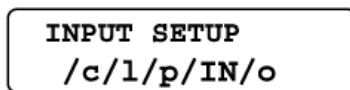

Figure 8-166 Color Video Printer Window Display (INPUT SETUP top menu displayed)
- 1.) Return to the INPUT SETUP top menu using the  button (Figure 8-166).
- 4.) Set the NTSC/PAL selector switch to PAL or NTSC as shown in Figure 8-166 on page 8-165.